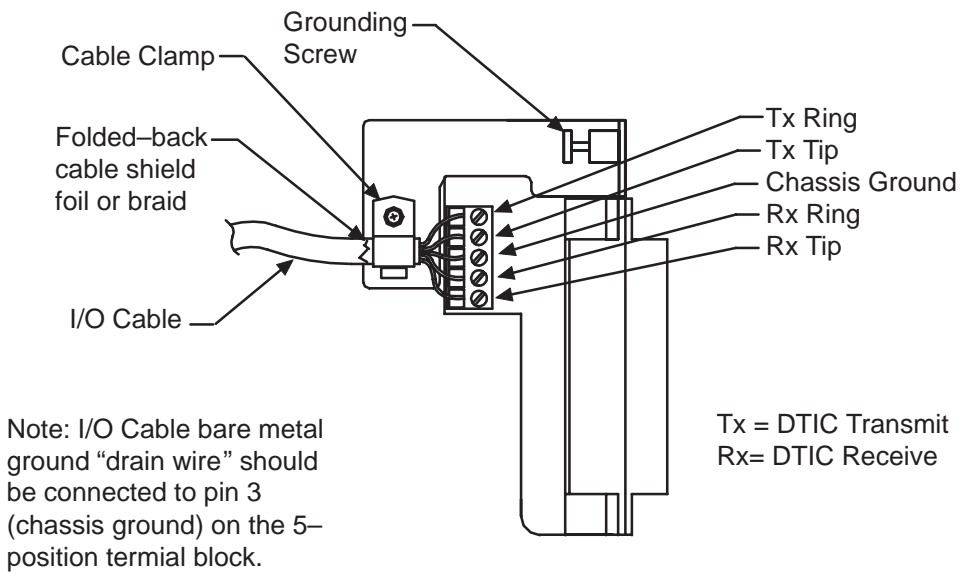

Figure 9-14 120-ohm DTIC-E1 Adapter
- b. Connect the conductors from the I/O cable to the 120-ohm adapter s shown in Figure 9-14.